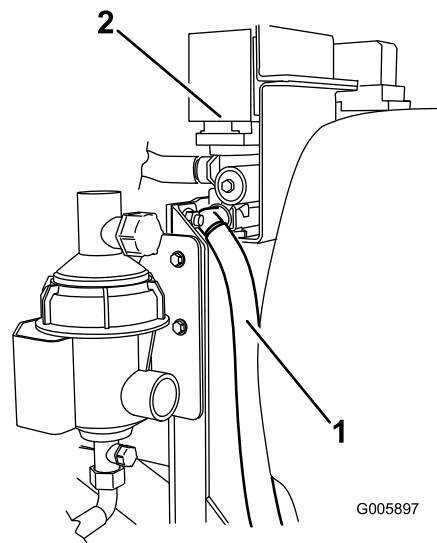
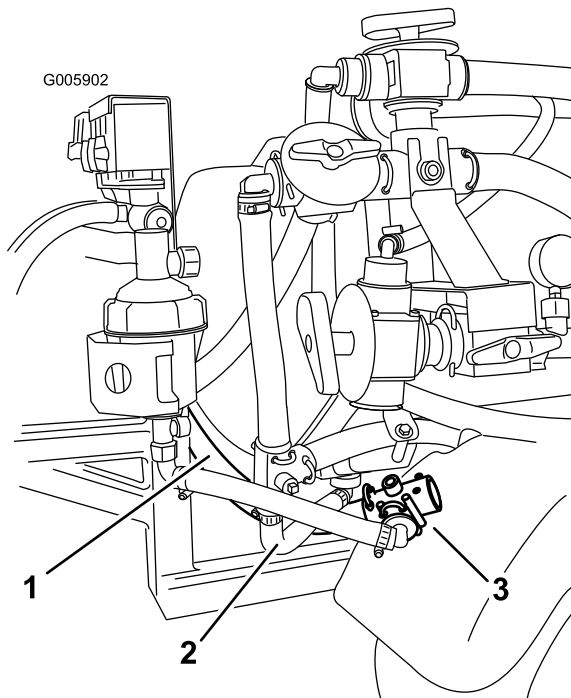

Figure 50
Figure 53
2. Locate the valve manifold at the back of the machine and stretches across the top of the boom frame uprights. The existing bypass line is connected to the right side of the valve manifold (Figure 50). Remove the small retainer fork and disconnect the bypass hose. Retain the small fork at this location for later use.
7. Locate bypass hose in loose parts (Figure 1). Connect the 90 degree fitting to the open connection on the right side of the valve manifold, see Figure 50, and secure it with the existing, small retainer fork. Route the bypass hose under the existing agitation hose to the tee connection on the fender (Figure 53).
8. Connect the opposing end of the hose with the straight connector to the open side of the tee fitting that is facing to the back of the machine. Use a small retainer fork from loose parts to secure the connection (Figure 53).